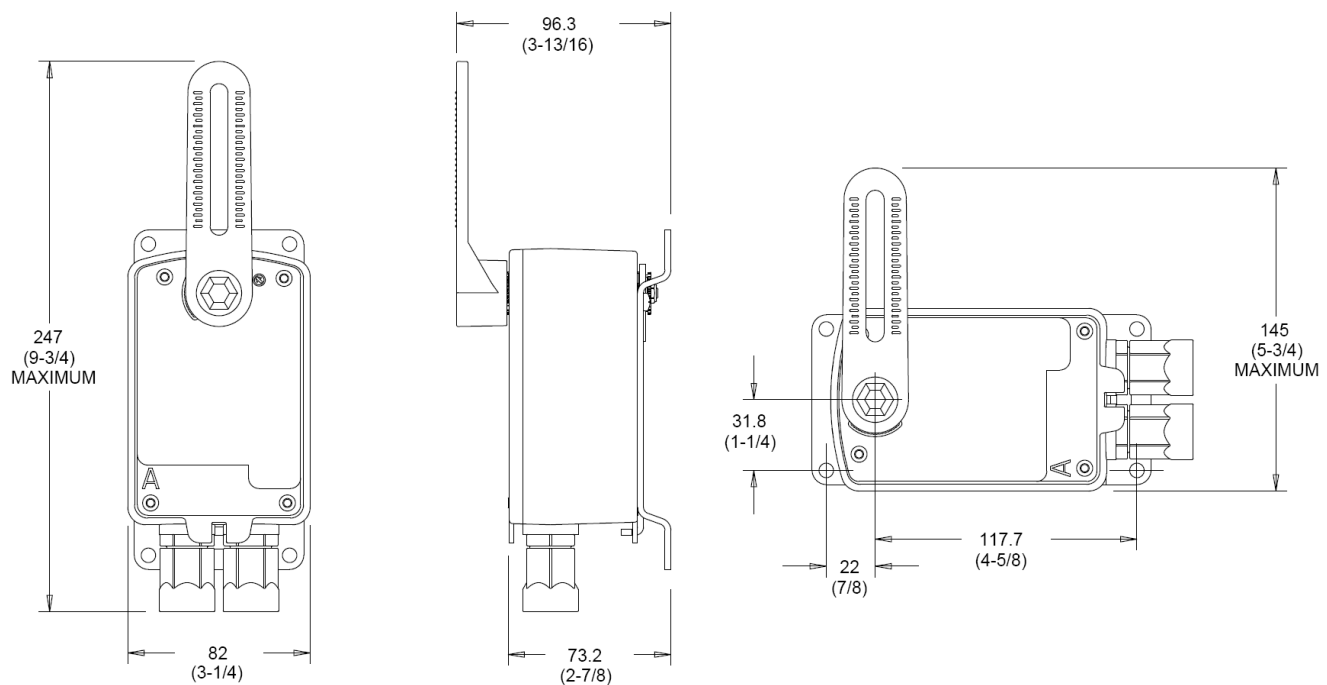

Figure 2: M9203-115 Remote Mounting Kit overall dimensions, mm (in.)
See Figure 2 for overall dimensions and proper mounting orientations.
3. Using the two No. 8 Thread Forming Phillips Screws, secure the actuator to the mounting bracket as shown in Figure 2. Use the recommended torque of 1.7 to 2.3 N·m (15 to 20 lb·in).